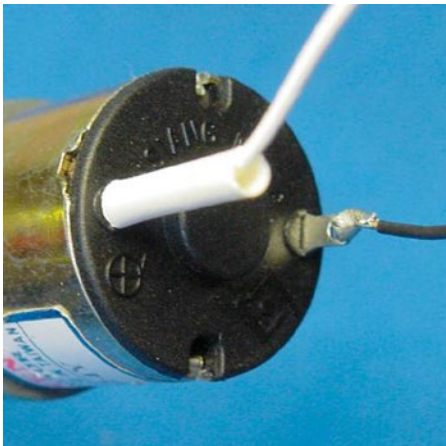

Figure 22-9. Heat-shrink tubing placed over soldered motor terminal in preparation for shrinking
3. Slide one of the white tubes over the soldered white wire on the positive motor terminal (see Figure 22-9). It should slip on without a struggle. If it staunchly resists being pushed on, pick a larger diameter of heat-shrink tubing.